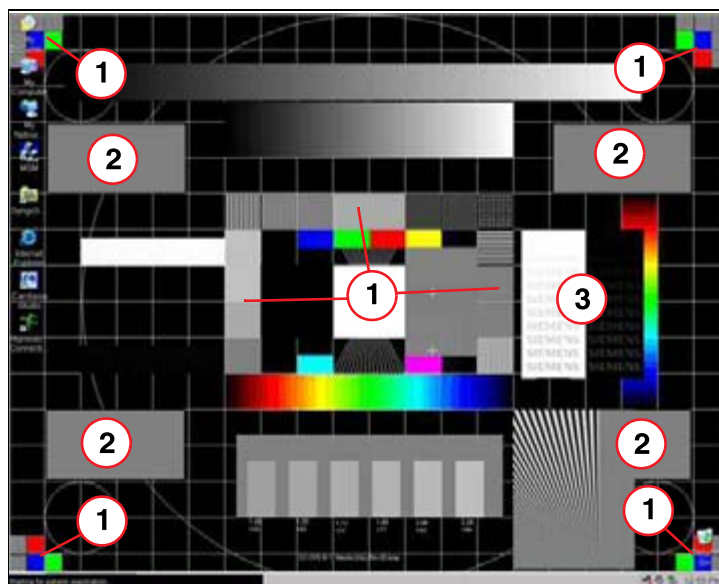

Fig. 59: Test image Master 2 All Rev 20
- If the NUMARIS application is displayed again, minimize it as described above (task manager); result: the test image is displayed in full-screen mode (Fig. 59 / p. 79).
- Click **Open** and **OK**, the result shows (Fig. 59 / p. 79).
- The **Pixel on/off** fields (Fig. 59 / p. 79) must appear as uniform and smooth areas.
- The high-frequency line pattern groups of the test image (Fig. 59 / p. 79) should be visible in both the horizontal and vertical directions and should not have colored edges.
- All 10 'SIEMENS' logos in the black and white fields (Fig. 59 / p. 79) must be visible. The ambient light should correspond to the actual operating conditions on-site (this should be reproduced in consultation with the customer).